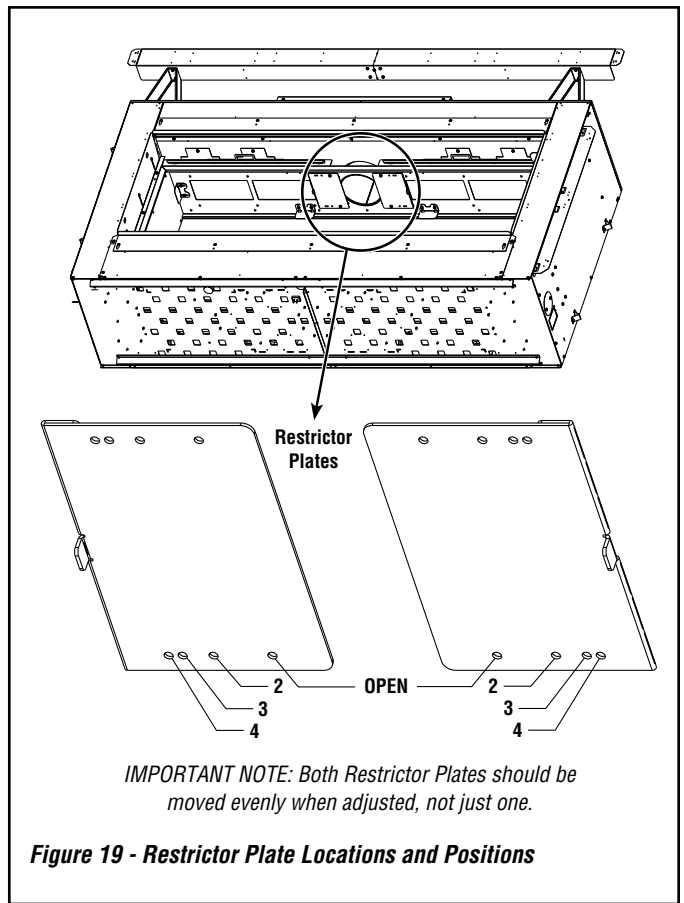

Figure 19 - Restrictor Plate Locations and Positions
10.3 Remove screws holding the **restrictor plate(s)** to the top of the firebox. Mount the restrictor plates back to the firebox using **hole position #4** (closed position). See *Figure 19 and 21* for plate hole locations and restriction settings.